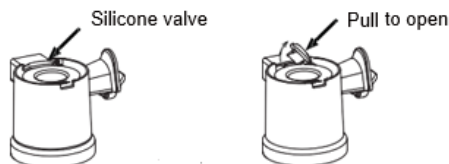

Fig. 8
7. If there is still residue in the mouth of the Spout, you can turn the Juicing Bowl over, open the Silicone Pressure Valve and rinse with water. Then reattach the valve. (Fig 8)